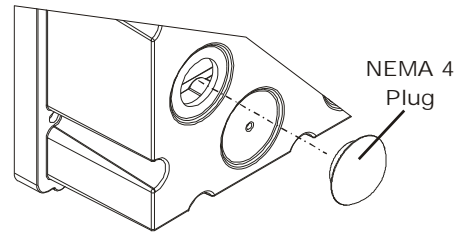

FIG. 82: INSTALLING NEMA 4 PLUG
- Step 1. Place the plug over the hole. (See Fig. 82)